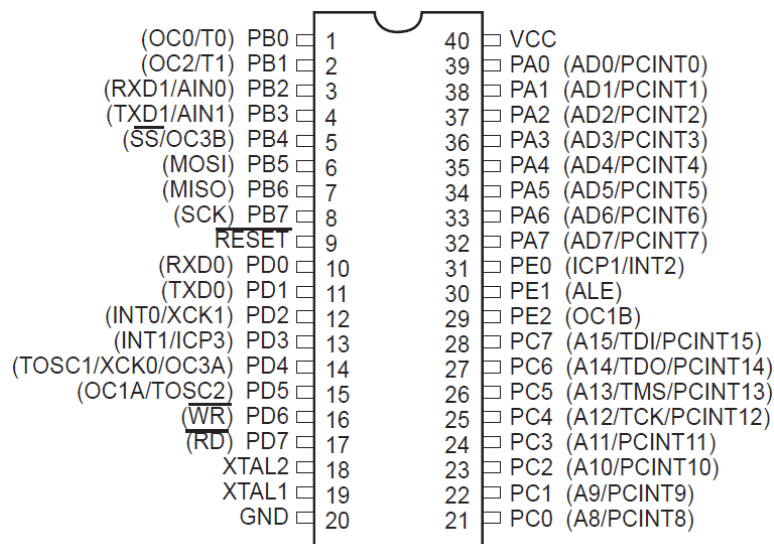

Figure 3. Atmel AVR ATmega162.
- c. The timer in Figure 1 can be used in PWM mode to control dimming of LEDs and other light sources. Sketch a simple circuit for dimming a LED up and down using an AVR ATmega162 together with two push buttons (see Figure 3 for the pinout of ATmega162). Let TOP equal 0x00FF (fixed), let prescaler equal 1024, and use the same crystal oscillator as in a). Let OCR1A determine the PWM duty cycle.
- The system should be built up around a microcontroller of type AVR ATmega162 as shown in Figure 3.